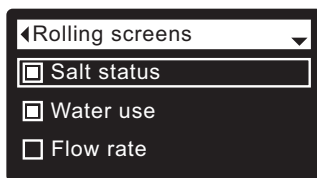

FIG. 56
5. Press the SELECT (O) button to display the Rolling screens menu (See Figure 56).